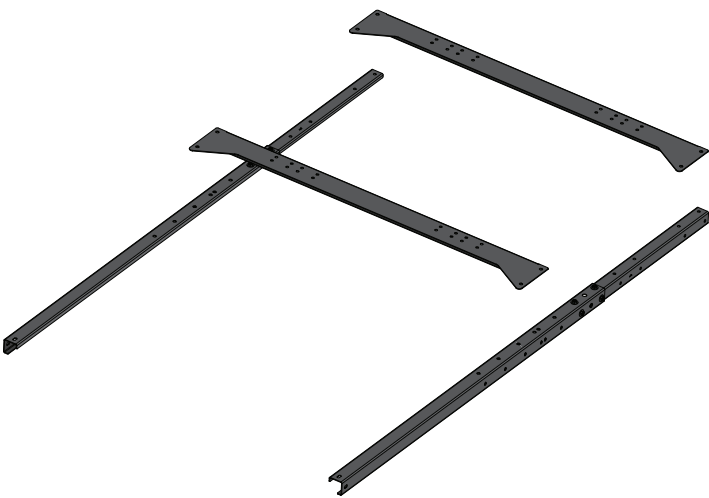

FIG. 3a
**3** Place two Leg Assemblies from the previous step on the ground about 5' apart . Align the Leg Assemblies so the positioning holes are facing up. Lay two Long Braces (C) onto the Leg Assemblies to form the shape shown in [FIG. 3a].